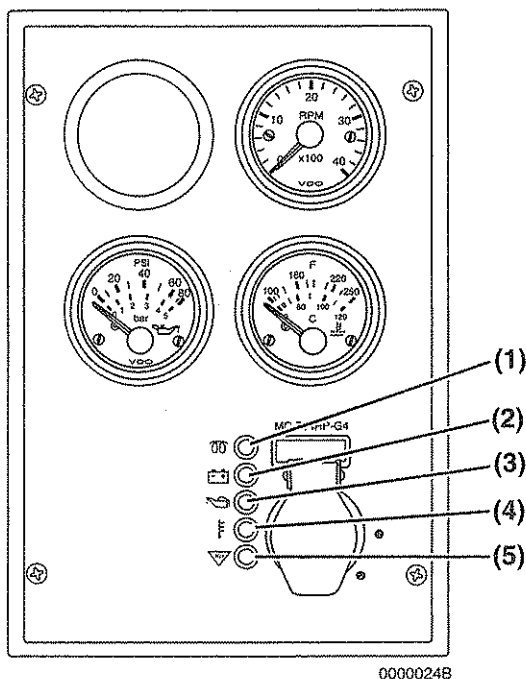
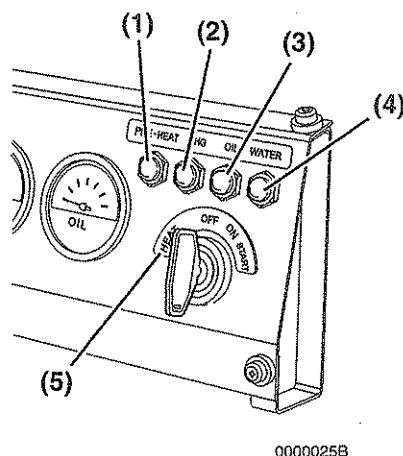

Figure 9
Figure 10
HEAT Indicator (Figure 9, (1)) - The pre-heat function is automatically activated when the key switch is turned to the ON position. The indicator flashes for several seconds (4 sec. for IDI models with glow plugs, 15 sec. for DI models with glow plugs or air heater) and when it goes out you can turn the key switch to START.
HEAT Indicator (Figure 10, (1)) - Note that on this type of panel you must turn the key to the HEAT position (Figure 10, (5)) to activate the inlet air heater or glow plugs. The indicator will flash for several seconds (4 sec. for IDI models with glow plugs, 15 sec. for DI models with glow plugs or air heater) when you turn the key to HEAT and when it goes out, you can turn the key switch to START.
Battery Charge (Figure 9, (2)) or (Figure 10, (2)) - This indicator will come on if there is a problem in the charging system. This indicator does not indicate if the battery is discharged. See *Troubleshooting Chart on page 98*.
Engine Oil Pressure (Figure 9, (3)) or (Figure 10, (3)) - This indicator will come on if the engine oil pressure is below or exceeds normal limits. See *Troubleshooting Chart on page 98*.
Engine Coolant Temperature (Figure 9, (4)) or (Figure 10, (4)) - This indicator will come on if the engine coolant temperature exceeds normal limits. See *Troubleshooting Chart on page 98*.
Auxiliary (Figure 9, (5)) - Used for special applications.